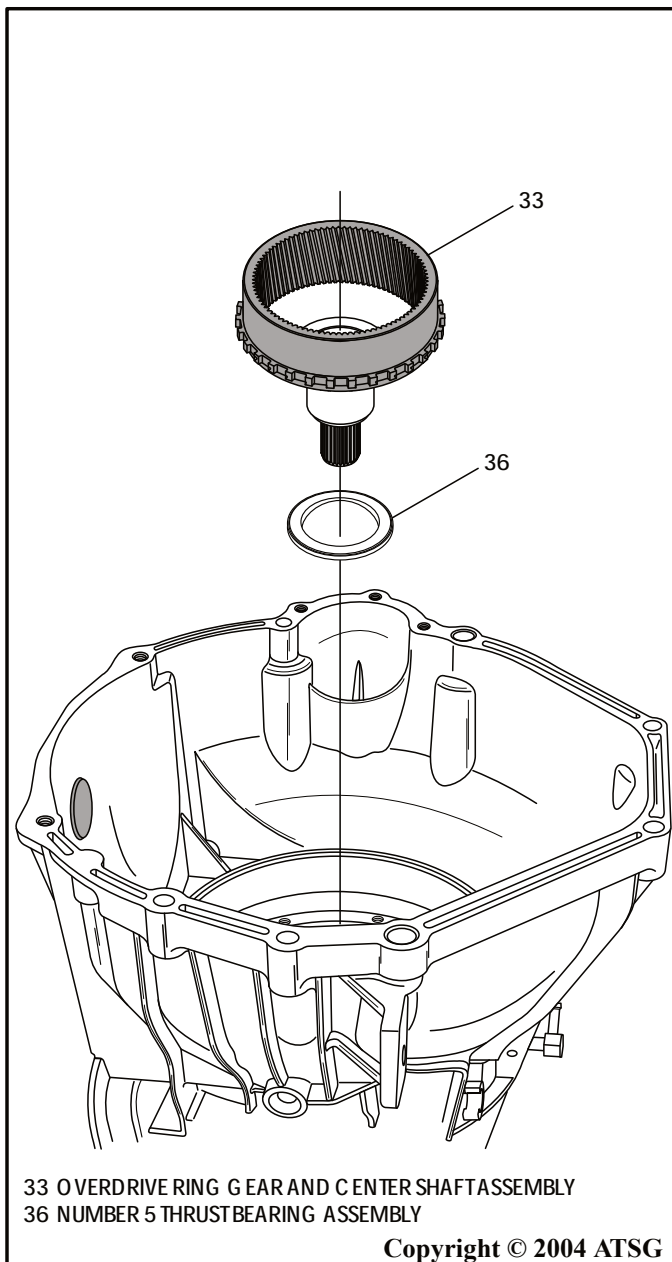

Figure 172
19. Install the pre-assembled overdrive ring gear and center shaft, as shown in Figure 172.